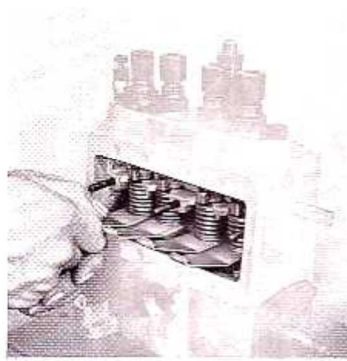

FIG. 5. INSERTING TAPPET HOLDERS
1. Remove the base plate (11) and gasket and drain the fuel oil from the lower portion of the pump housing.
2. Remove the filter cover (31) and sealing gasket from the rear of the pump housing and drain the fuel oil from the filter chamber. Discard the felt filter pads, and lift out the filter support plate and gasket.
3. Remove the cover plate (16) from the front of the housing.
4. Remove the feed pump, or blanking plate (14) and the excess fuel device if fitted.
6. Turn the camshaft (12) and as each tappet is lifted insert a tappet holder between the lower spring plate and the upper surface of the tappet block (Fig. 5). Right and left handed holders are used, part nos. 7044/648 and 7044/649 respectively for 'N' pumps, whilst part no. 7144/180 is used on 'NN' pumps.
7. Remove the nuts which secure both camshaft bearing end plates. On eight cylinder pumps remove the centre bearing locating bolt or securing bolts as the case may be. Tap one end of the camshaft lightly with a hide-faced hammer and dislodge one bearing end plate (28).